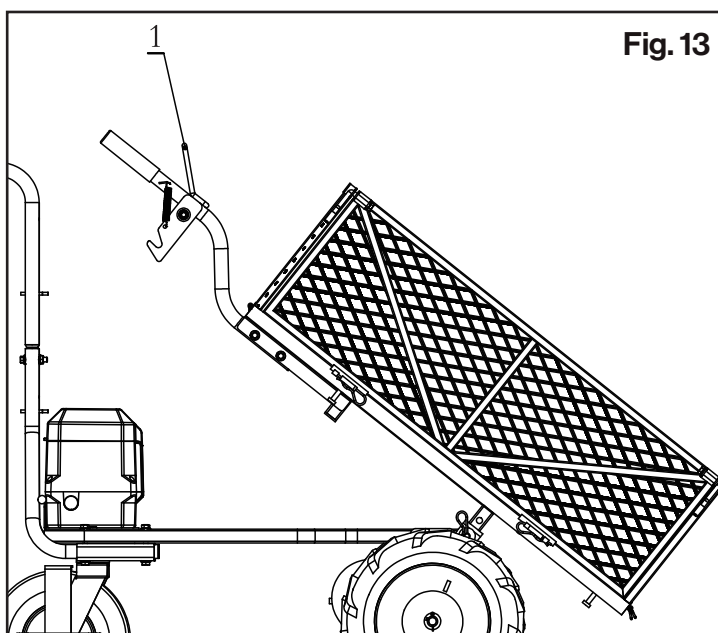

Fig. 13
4. Release the lock lever (1) out from the dumping handle holder, push the dumping handle to lift the cart for dumping. (See Fig. 13)